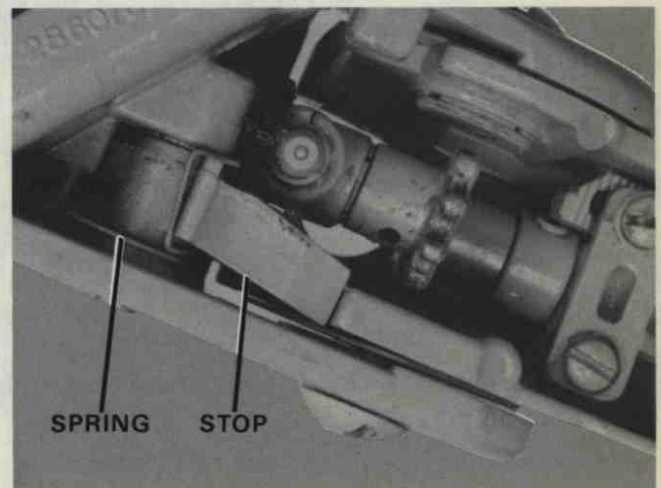

Figure 7. Installing Stop and Spring on Bracket.
- A. Place two (2) bearings in bore of steering handle stop.
- B. Install stop and spring. Figure 7.